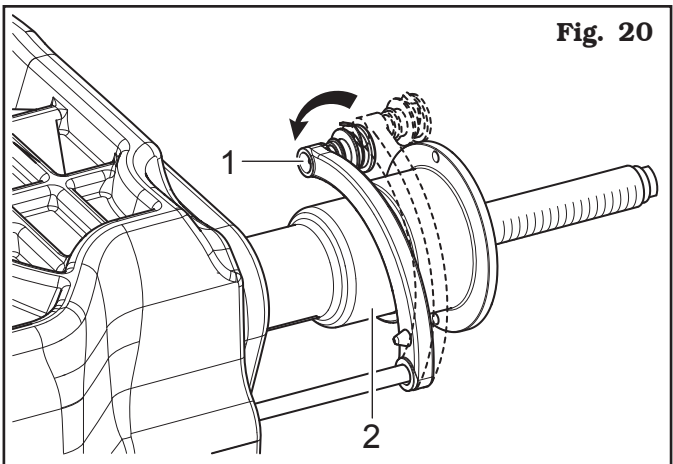

Fig. 20
REPEATEDLY BRINGING THE CALIPER ARM (FIG. 20 REF. 1) IN CONTACT WITH THE MANDREL (FIG. 20 REF. 2), THE PROGRAM WILL CYCLE FROM "STATIC" TO "STATIC 1" TO "2 STATIC" THEN RETURNING TO THE BEGINNING.
REPEATEDLY BRINGING THE CALIPER ARM (FIG. 20 REF. 1) IN CONTACT WITH THE MANDREL (FIG. 20 REF. 2), THE PROGRAM WILL CYCLE FROM "ALU-S" TO "ALU-S1" TO "ALU-S2" THEN RETURNING TO THE BEGINNING.
FIRST MOVEMENT: to pass from static (STAT) to ST1 (STATIC 1) in automatic mode, lean the gauge arm (**Fig. 20 ref. 1**) against the bell (**Fig. 20 ref. 2**).
SECOND MOVEMENT: lift and lower again the gauge arm to select ST2 (STATIC 2) mode (see **Fig. 20**). Maintain the position for a few seconds. The measurement will have been acquired when the detected rim diameter is displayed.
To pass from static **ALU-S** to **ALU-S1** in automatic mode, lean the gauge arm (**Fig. 20 ref. 1**) against the bell (**Fig. 20 ref. 2**).
Lift and lower again the gauge arm to select **ALU-S2** mode (see **Fig. 20**).